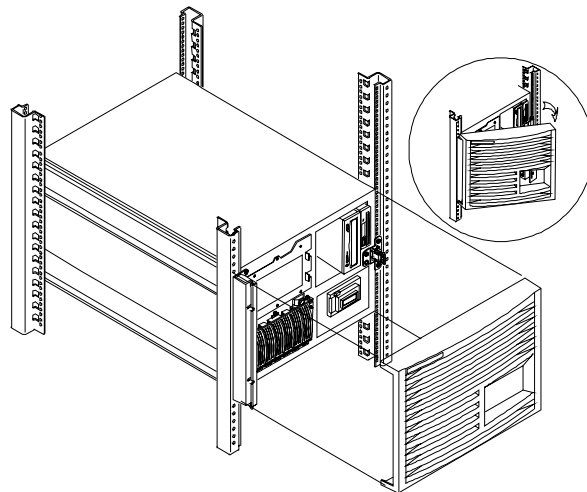

Figure 8-14. Installing the Bezel
6. Snap the bezel on the bezel hinge and close the bezel on the bezel latch. The bezel swings open to access the NetServer internal mass storage cage (see Figure 8-14).